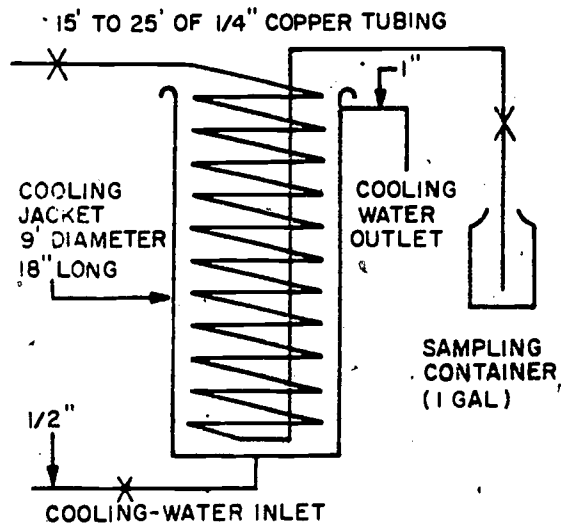

Figure 30. A typical water-cooled sampling coil.
12. *Water-cooled coil.* Good results are obtained by using 15 to 25 feet of 1/4-inch copper tubing to form a coil approximately 6 inches in diameter and about 10 inches high to make a water-cooled sampling coil such as that shown in figure 30. The coil is immersed in a bucket of cold water when a sample is being drawn. The